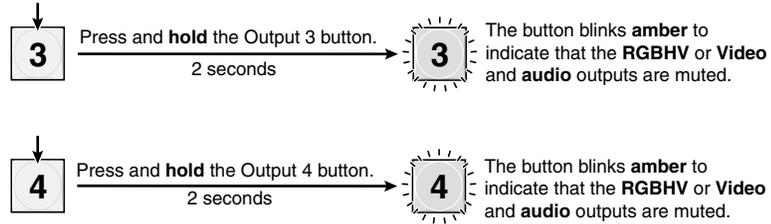

Figure 3-53 — Mute the outputs
4. **One at a time**, press and **hold** the Output 3 button and then the Output 4 button (figure 3-53) for approximately 2 seconds until each button begins to blink. The output 3 and output 4 video and audio signals are muted.